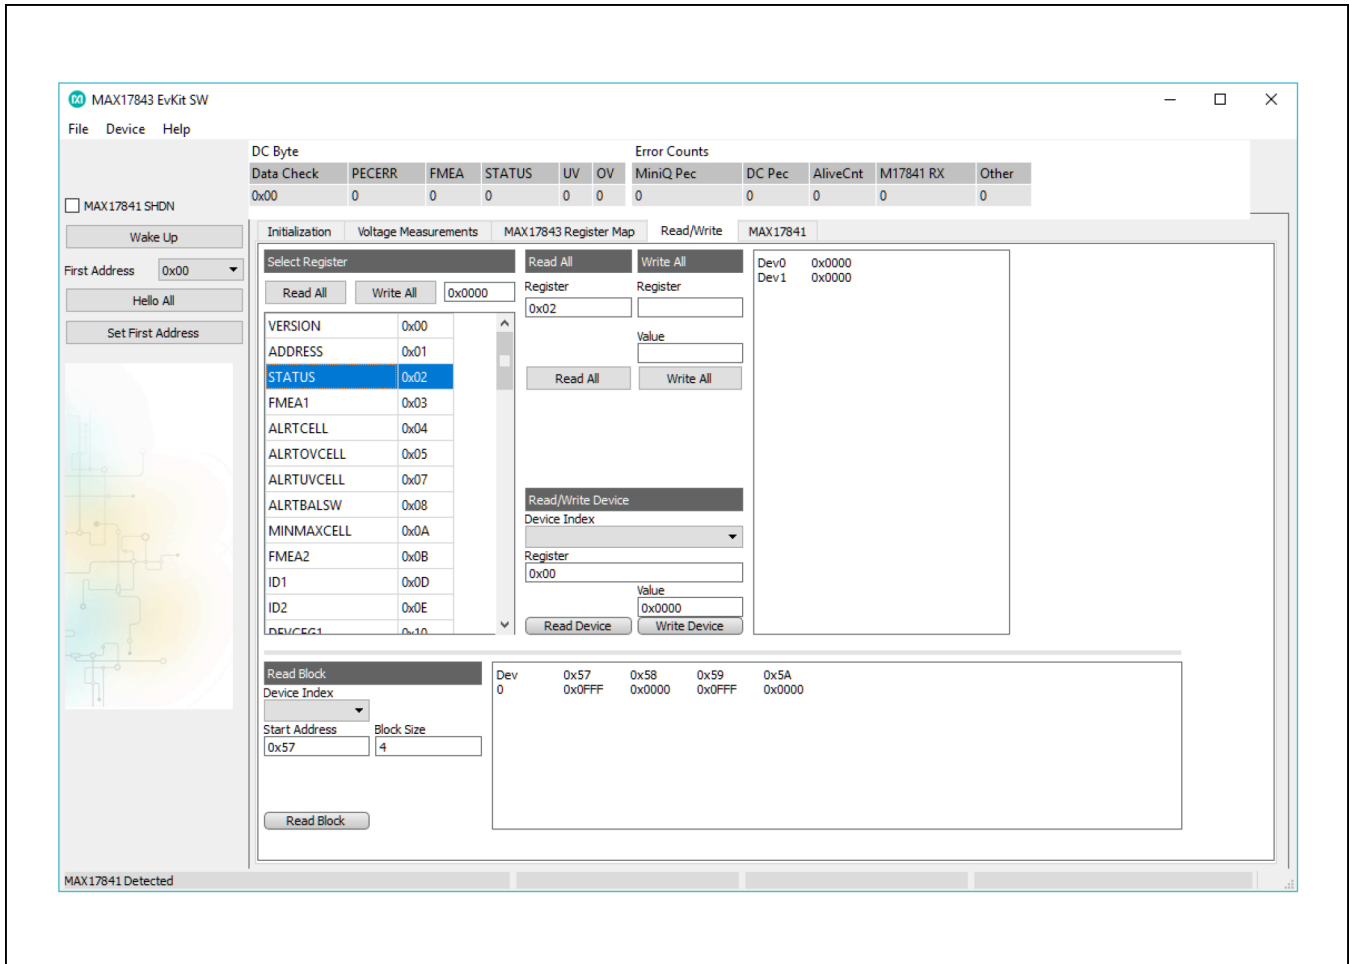

Figure 6. MAX17843 Evaluation Kit Software (Read/Write Tab—Select Register from List and Write All)
- 2) Enter the hex value (#####) into the edit box directly to the right of the **Write All** button (Figure 6).
- 3) Click the **Write All** button (Figure 6).
The second option to perform a **Write All** uses the **Read All and Write All** section (Figure 6) of the **Read/Write** tab.
A specific device in the daisy-chain can be read by using the **Read/Write Device** section within the **Read/Write** tab shown in Figure 6. To perform a read of a specific register of a single device:
The **Read/Write** tab can also be used to read the active register of all devices in the daisy-chain. There are two options for performing a **Read All**. The first option is performed by clicking the name of the desired register from the complete list of registers (Figure 6).
The second option for performing a **Read All** uses the **Read All and Write All** sections (Figure 6) in the **Read/Write Device** tab.
Finally, a **Read Block** (Figure 6) is used to read multiple consecutive registers within a specified device. To perform a read of a specific set of registers of a single device: